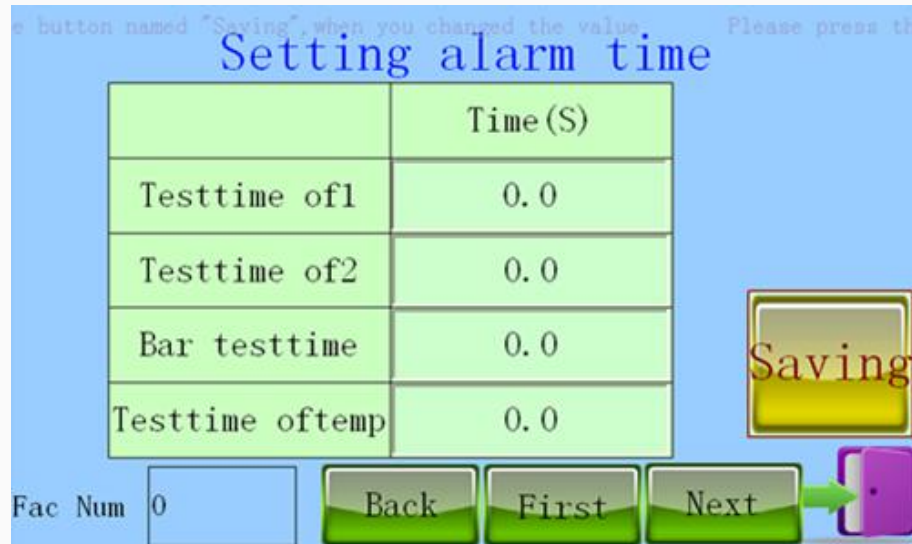

Figure 20
6.2.4 according to the actual production requirement set each unit action, when set after the completion of such as click "next page" into "Settings screen two" interface (see figure 16), click on "the last page", then enter the "alarm time Settings" interface (see figure 20). First click on the "next page" into "Settings screen two" interface.
6.2.8 into "Settings screen five" to vibration, exhaust, heat sealing, cold sealing, vibration frequency each execution unit open value and closing value Settings, when set is completed, please click the "save". Such as click "next page" into "alarm time Settings" interface (figure 20), click on the "previous page", then return to "Settings screen four" interface.